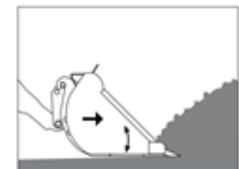

Fig.23↵
4. If material is to be loaded and the bucket cannot easily penetrate, you can create an up-and-down movement of the bucket cutting edge by alternately curling the bucket slightly upward and downward while penetrating the material. This makes it easy for the bucket to penetrate the material (Fig. 23).